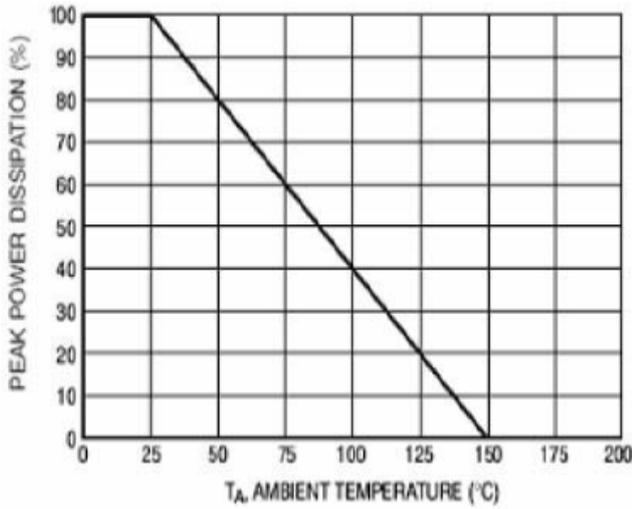
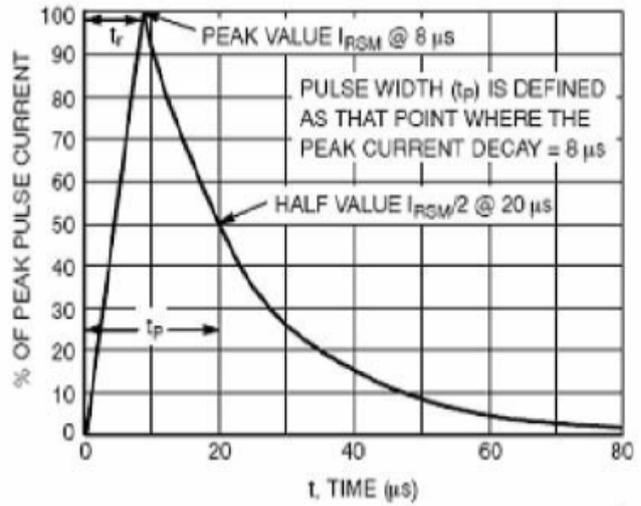

Figure 1. Pulse Derating Curve
Figure 2. 8 x 20 μs Pulse Waveform
1. Non-repetitive current per Figure 1. Derate per Figure 2.